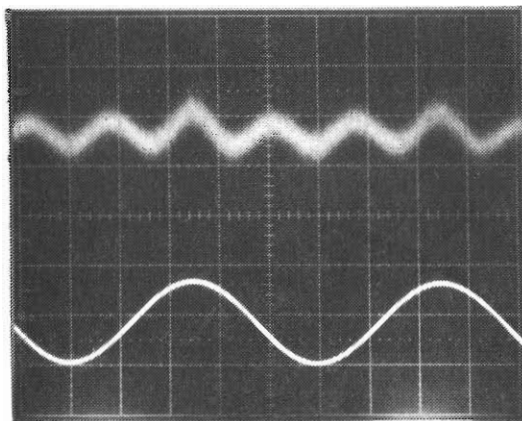

Fig. D-2: 100HZ DISTORTION RESIDUAL, EXP RELEASE
- c) Restore the oscillator output. Switch the RELEASE SHAPE switch to EXP, and verify that the distortion decreases, and that the distortion residual looks like Fig. D-2. Suppress the oscillator output, and verify that the time required for the G/R meter to move from 20dB to 10dB G/R is 2.0seconds,  $\pm 0.5$ seconds.